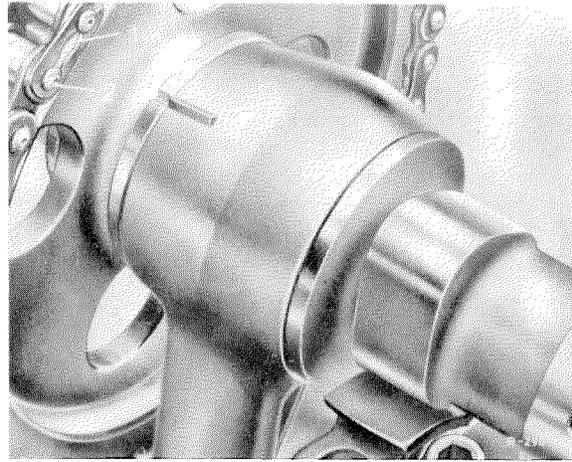

Figure 05-27/2
Insert the connector link (2) from front rearwards. Insert the spring lock (1) with the closed end showing in direction of rotation (see Figure 05-27/2).